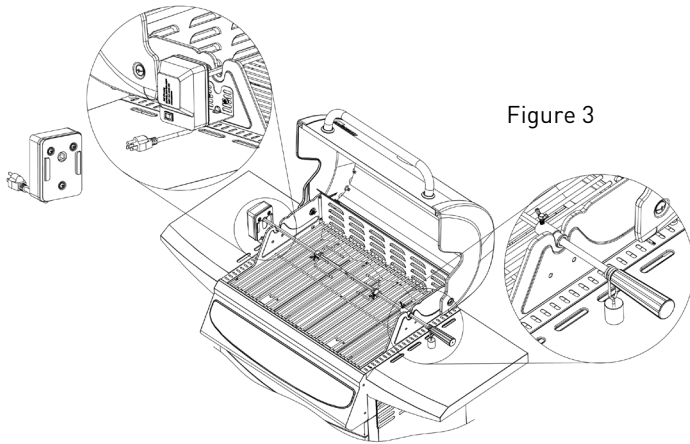

Figure 3
3. Attach the motor bracket to the side of the grill housing (Fig. 2). The spit should run straight through the spit holder. To determine the appropriate height for mounting, insert the motor into the motor mount with the spit engaged and hold everything against the grill housing before turning the screws into the housing (Fig. 3).